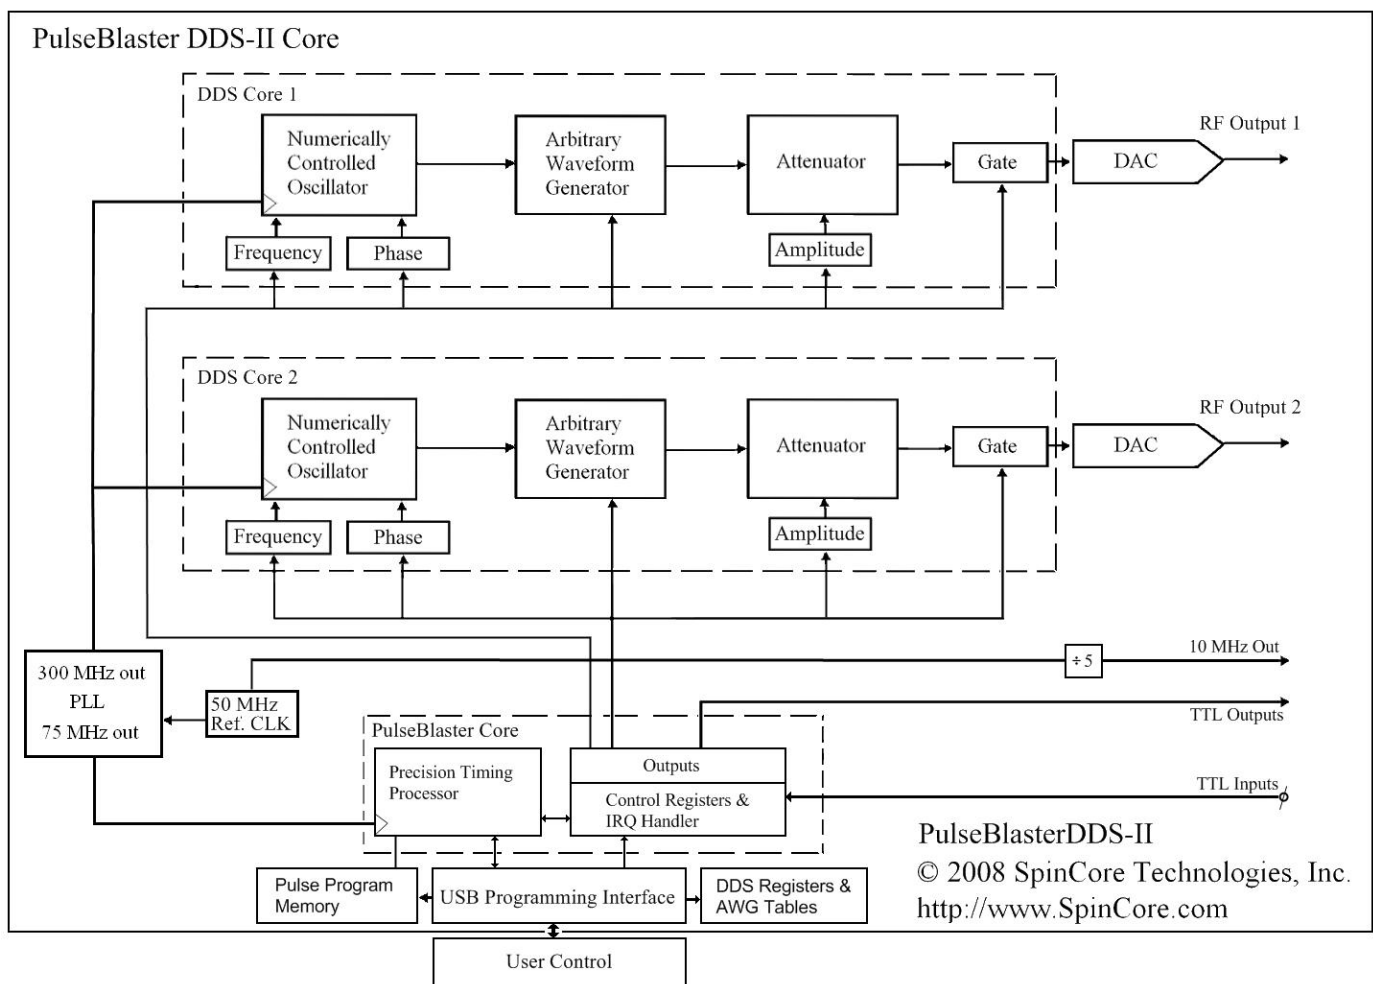

Figure 1: PulseBlasterDDS-II-300-AWG-300 System Core Architecture.
Figure 1 presents the general architecture of the PulseBlasterDDS-II-300-AWG system. The two major building blocks of the system are the two independent DDS Cores and the Pulse Programming and Timing Processor Core (PulseBlaster Core). The DDS Cores contain a numerically controlled oscillator and have 1024 programmable frequency registers² that are under the pulse program control. Prior to gating, the DDS signal can be phase offset by one of the 128 programmable phase registers². The waveform envelope and amplitude can be programmed by the user via the AWG table and digital attenuator. The PulseBlaster Core controls the timing of the gating pulses and provides the necessary control signals for the frequency, phase and amplitude registers. The DDS and PulseBlaster cores have been integrated onto a single silicon chip. High performance DAC chips and broadband output transformers complement the design. User control to the system is provided through the USB Programming Interface over the USB Bus. The USB Programming Interface has a 32-bit address bus and 32-bit data bus with auto address incrementing for easier user programming.
4. Define the shape of the carrier for the Numerically Controlled Oscillator and define the shape of the modulator envelope for the Arbitrary Waveform Generator. Please refer to Figure 1 in section I. Introduction.